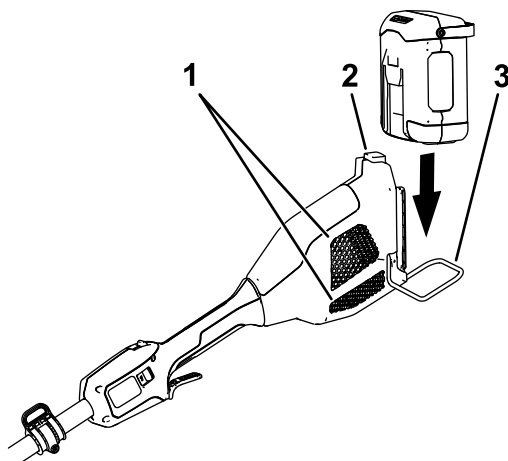

Figure 9
2. Ensure that the rod guard is lowered and align the cavity in the battery pack with the tongue on the handle housing (Figure 9).
3. Push the battery pack into the handle until the battery locks into the latch (Figure 9).